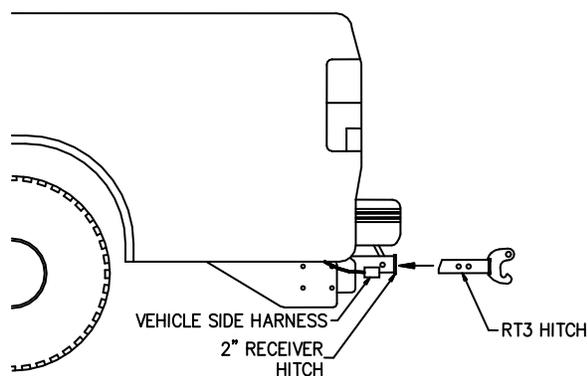

Figure 7. RT3 Attachment Hook G10388
1. Insert RT3 Attachment Hook into 2" Receiver Hitch, refer to Figure 7.